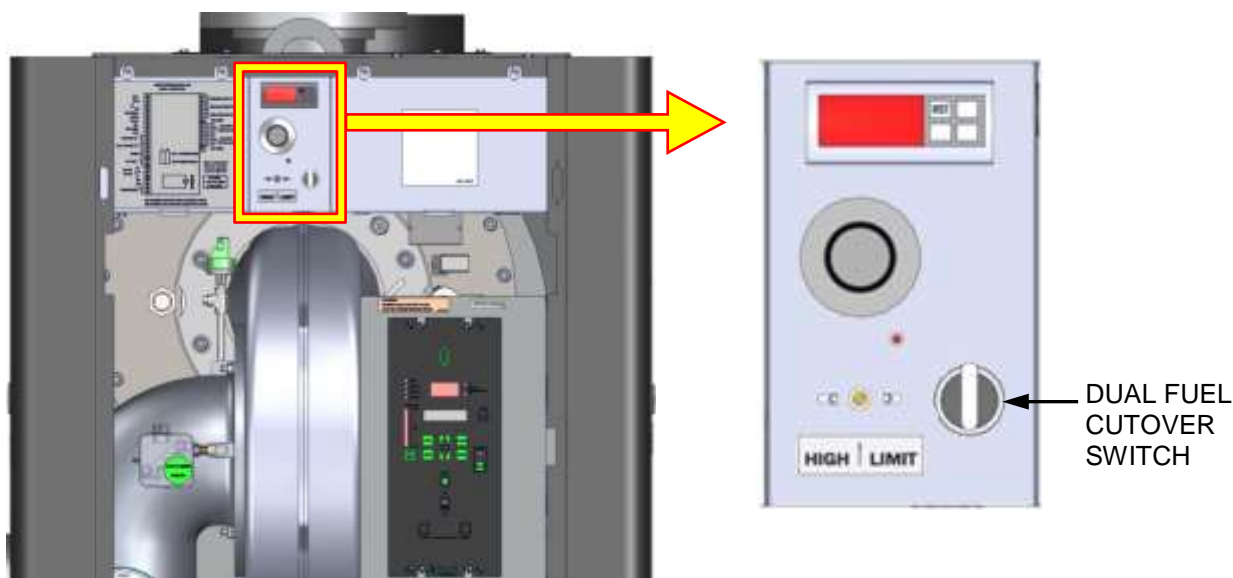

Figure 4-4: Dual Fuel Switch Location
4. Refer to Figure 4-4 and locate the Fuel Selector Switch on the unit, behind the front door.
4. Refer to Figure 4-4 and locate the Fuel Selector Switch on the front of the unit.